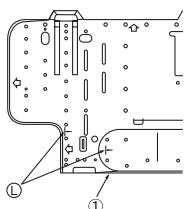

Fig. 3-7
- ③ If the flare pipe is to be embedded into the wall in advance: (Fig. 3-7)
① Wall mounting fixture